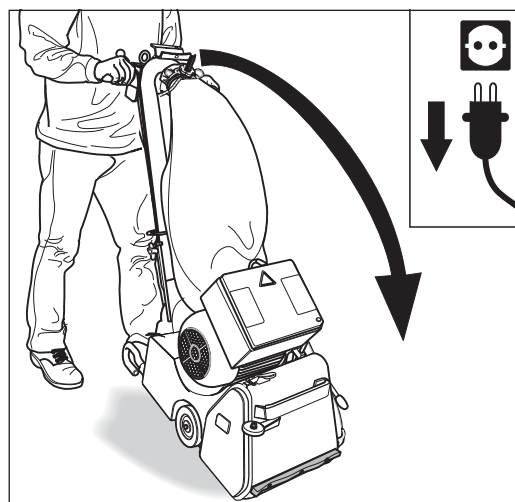
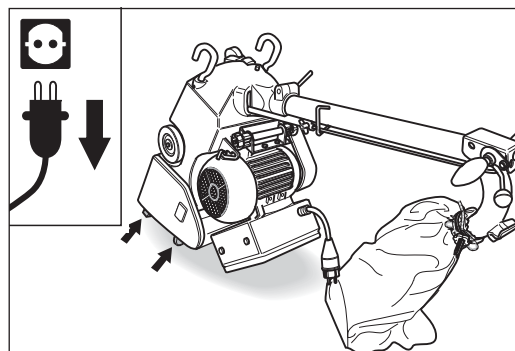

Fig. 86 **Pull the power plug out of the socket!** Tilt the machine forward over the bracket.
Fig. 87 **Ensure that the machine is standing securely!**
- 2 Tilt the machine forward over the bracket (Fig. 86). **Ensure that the machine is standing securely (Fig. 87)!**